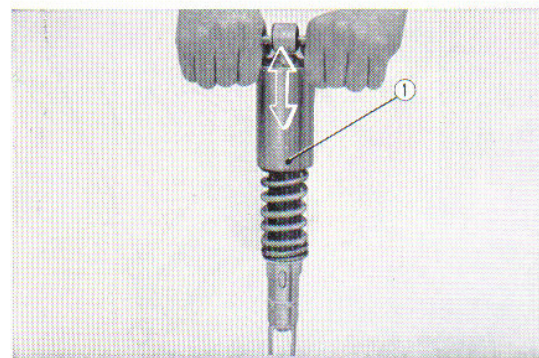

Fig. 4.71 Check of rear cushion
① Rear cushion assembly
(2) Upon completing the assembly, actuate the cushion assembly by hand to make sure that they are not binding. (Fig. 4.71)